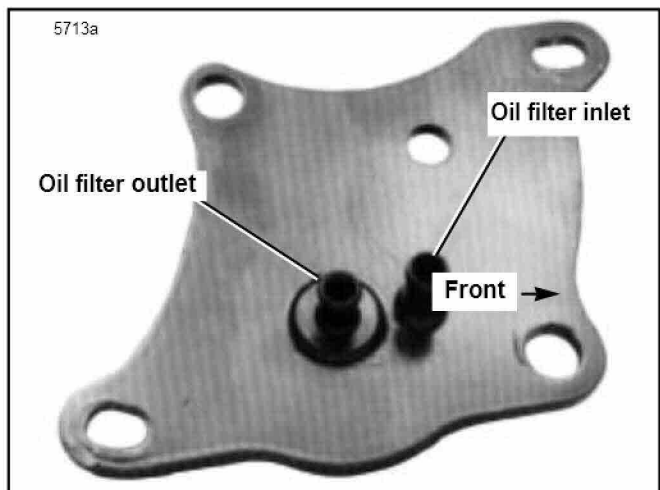

Figure 2. Oil Filter Fittings - 1982 to Early 1984 (Generator Equipped)
4. See Figures 2 and 3. Connect 9 in. hose to inlet fitting on oil filter mount and outlet fitting on oil cooler. Secure with clamps from kit.